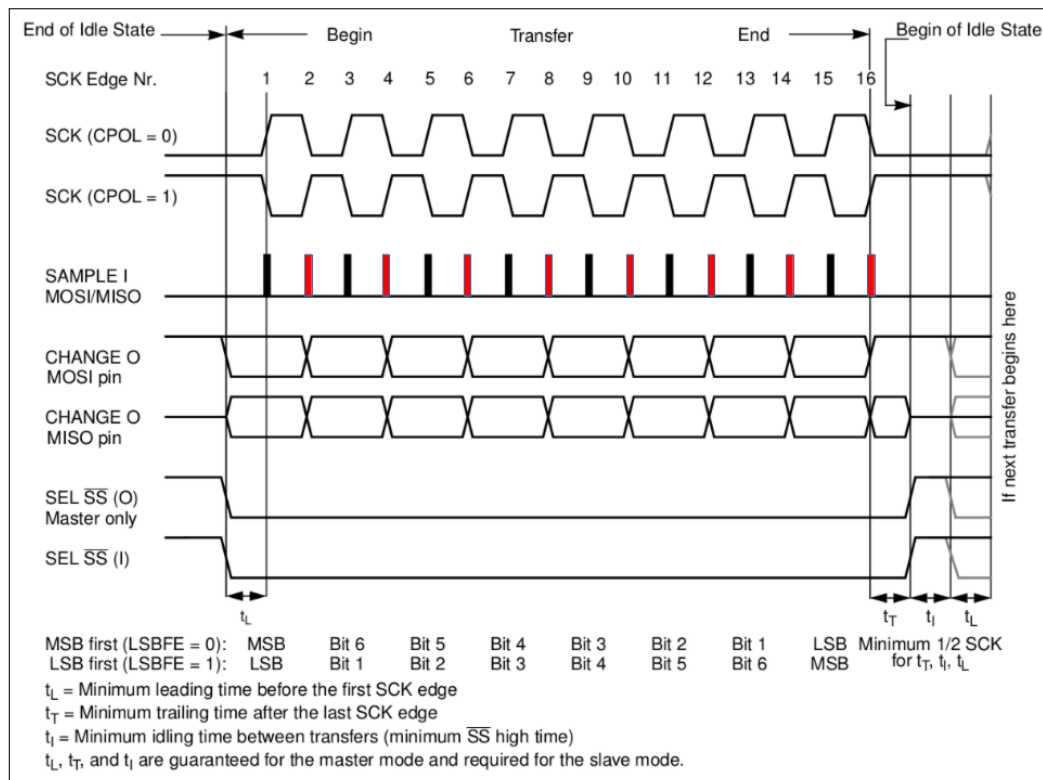
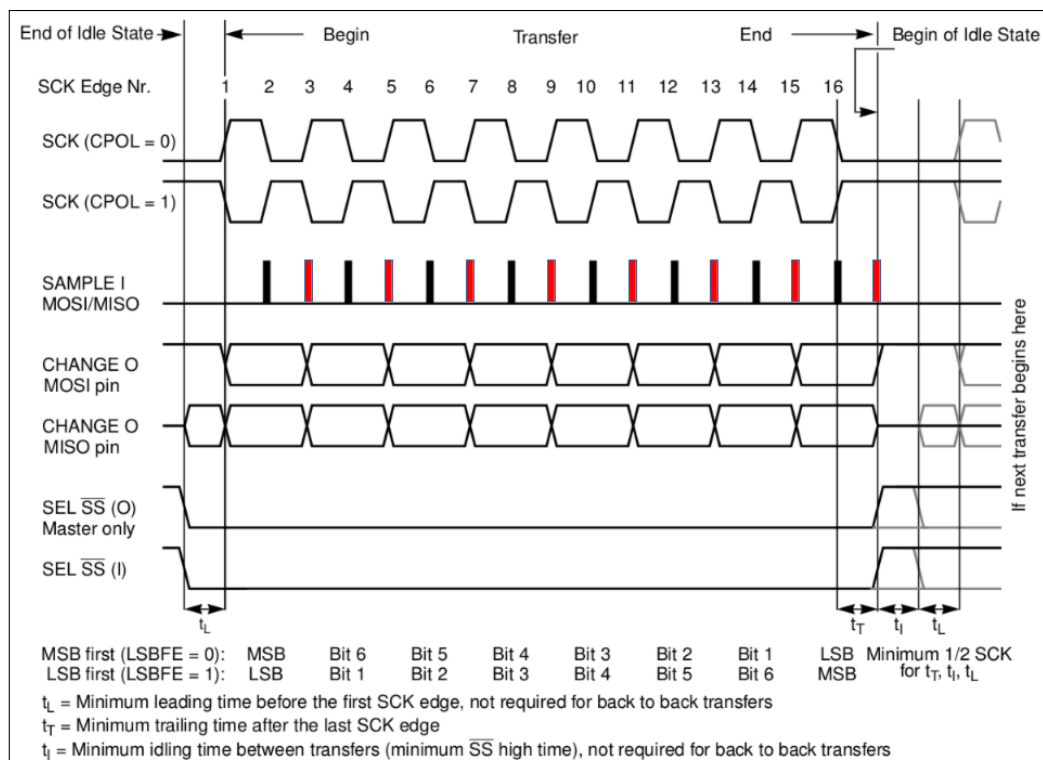

Figure 29.7-1. SPI Clock Mode 0 or 2
Figure 29.7-2. SPI Clock Mode 1 or 3
SPI protocol has four clock modes, i.e., modes 0~3. See Figure 29.7-1 and Figure 29.7-2.
- In master mode, the default compensation scheme delays SPI_CLK by half a cycle. Refer to Figure 29.7-1 and Figure 29.7-2. You can also switch to standard sampling via register configuration.